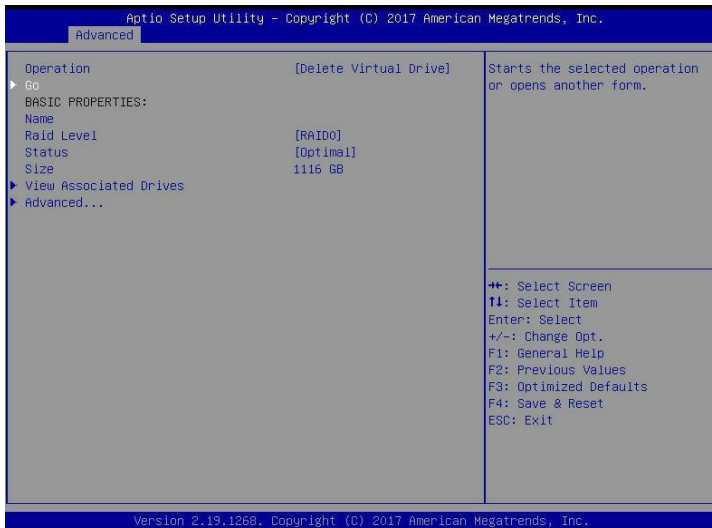

Figure 6-52
d) Enter the interface shown in Figure 6-52, select Go, and press Enter.
❖ Figure 6-52 Select Go